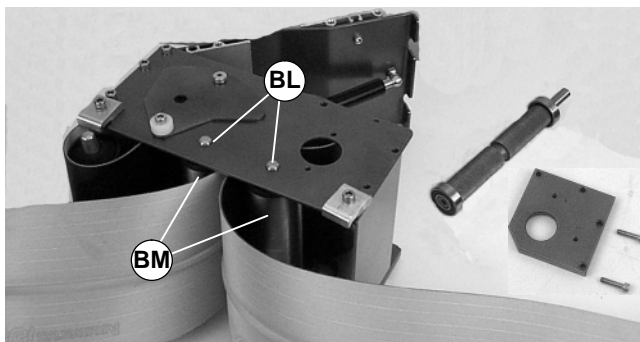

Figure 45
- For 127 mm or wider conveyor, depress both sides of each spring-loaded shaft (BL of Figure 45). Remove pulleys (BM).